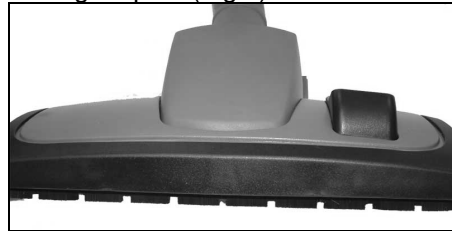
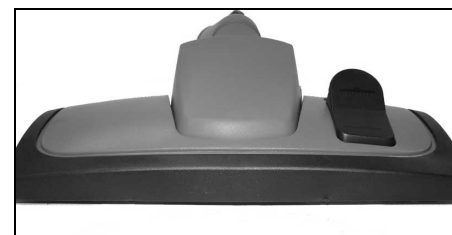

Fig 7
Fig 8
- The floor tool can be used for cleaning carpets and hard floors. The floor heads pedal should be down when cleaning hard floors (Fig 7) and in the up position when cleaning carpets (Fig 8).